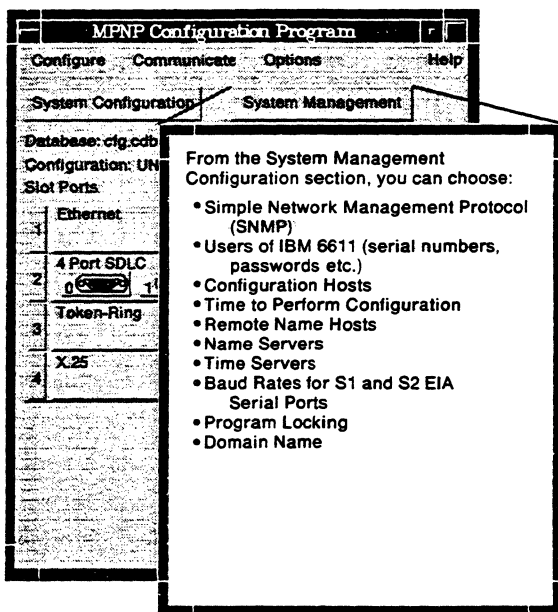

Figure 6. Preview of System Management Section
Step 6 Select **System Management** to configure the network system management functions. Figure 6 on page 12 illustrates the topics associated with the System Management section.